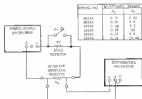

Figure 5-4. Output Current Test Setup
- Connect load bank as shown in Figure 5-4. Resistance value to be as follows:
- Connect test setup shown in Figure 5-4. Leaving switch S1 open.
- Connect test setup as shown in Figure 5-4.